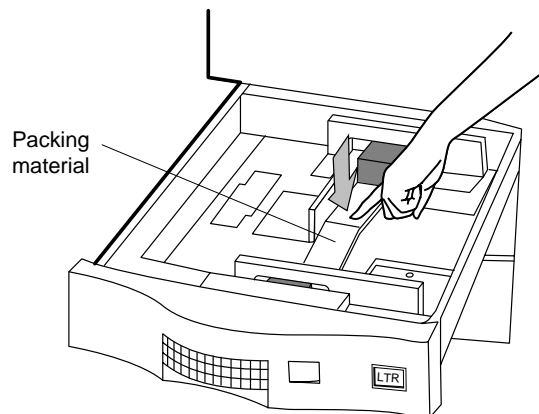

Figure A-11 Replacing Foam Packing Material
2. Replace the foam packing material for each tray. See Figure A-11.